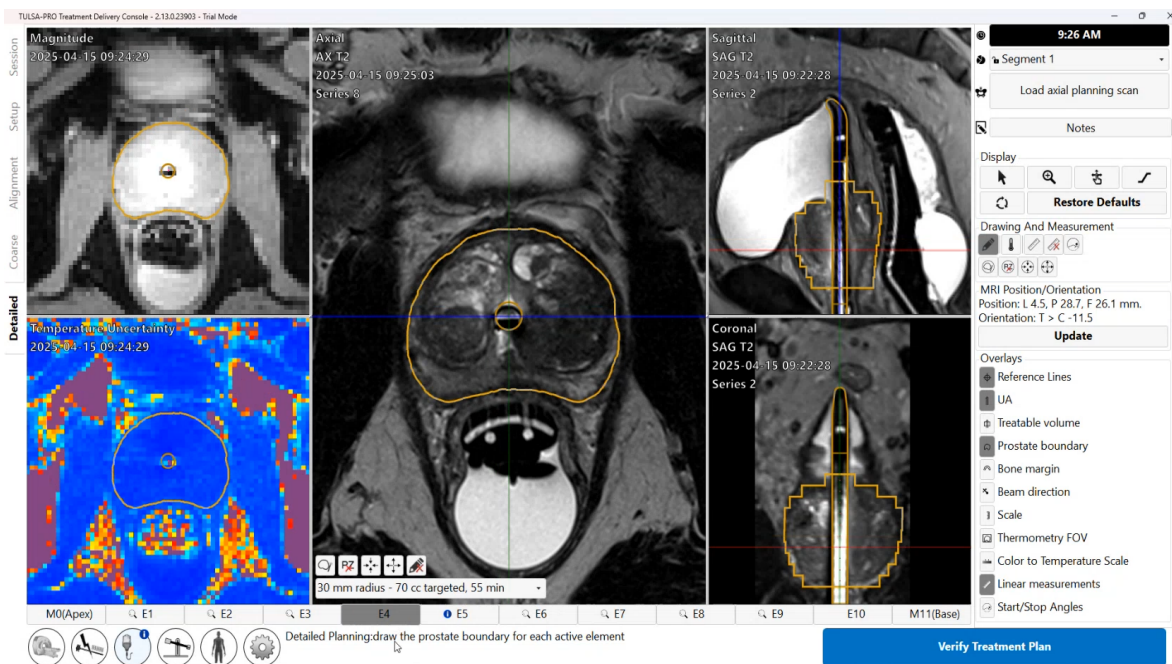

Figure 39: Detailed Planning after drawing boundaries
- Draw or edit the boundary to outline the tissue to be ablated on each slice based on the corresponding AX T2 and THERM magnitude images (Figure 39). Tools to customize the boundary are described in the following *mpMRI Vision*, *Treatment Arc*, *TULSA-AI Volume Reduction (VR)*, and *Contouring Assistant*. You can select individual slices by clicking on the numbered tab at the bottom of the screen or by pressing the left and right arrow keys on the keyboard. Use the sagittal and coronal views of the SAG T2 images to verify the intended ablation zone in three dimensions.